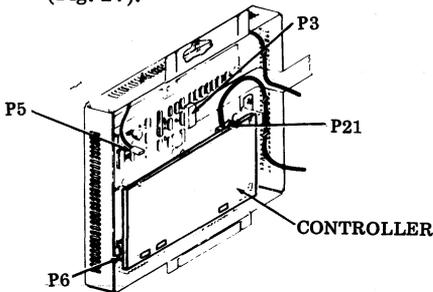

Fig. 17—Controller Connectors
- (c) Unplug connectors P3, P5, P6 and P21 (Fig. 17).